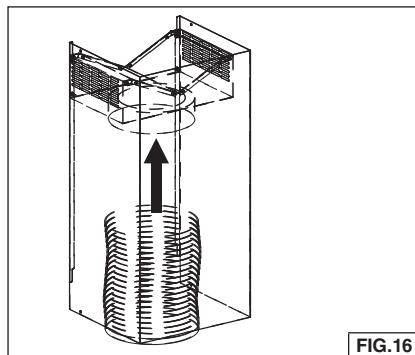

FIG.16
4. Attach 6-inch expandable ducting to the plenum and tape joint with aluminum duct tape. Fig. 16.